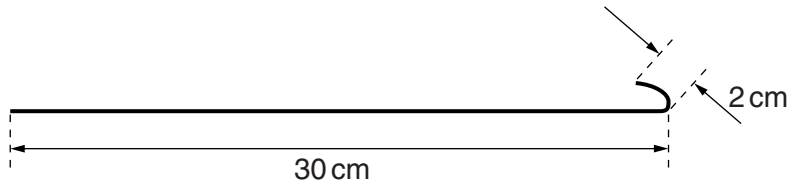

Fig. 2.2
- 4 The hook should be made from thin metal and shaped as shown in Fig. 2.2.